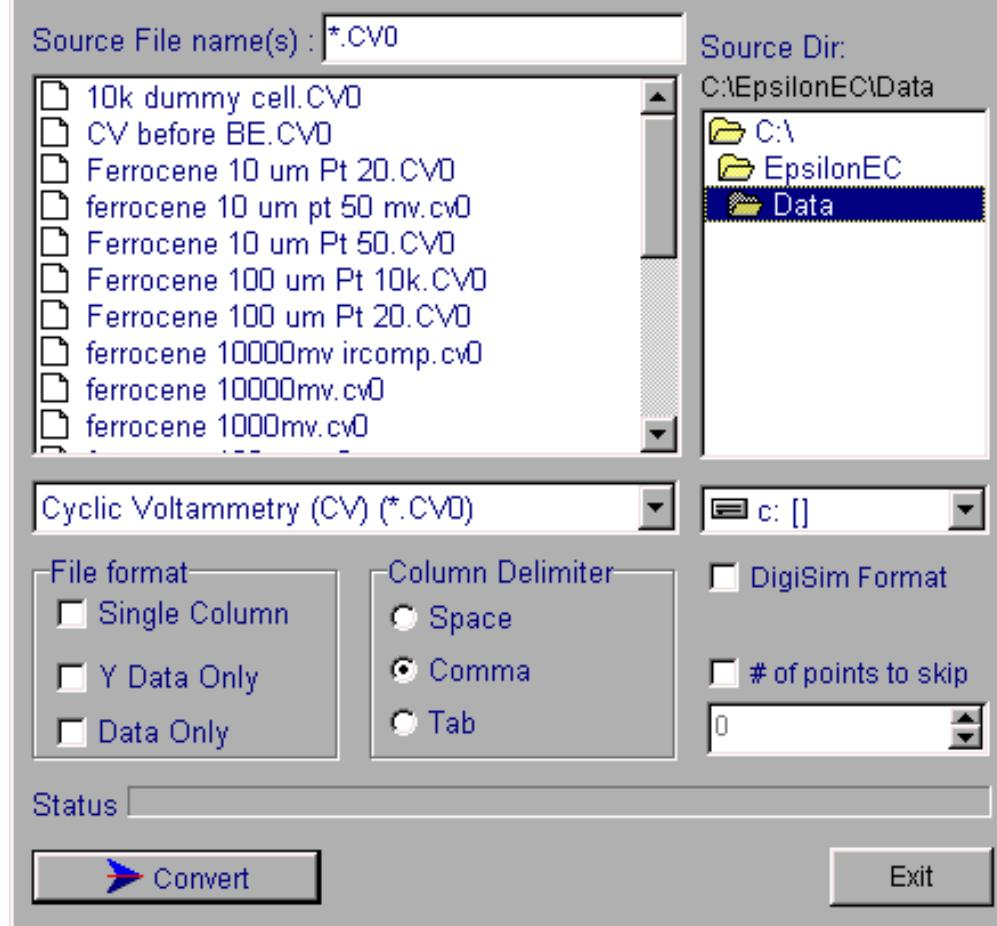

Figure 7. Convert to Text dialog box.
7. Use **Save** in the **File** menu (or the **F4** key) to save the data in the active experiment window (it should be noted that each technique has its own extension; for example, .cv0 for cyclic voltammetry). The data is saved in a binary format, but, once saved, it can be converted to a number of different text formats using **Convert to Text File** in the **File** menu (**Figure 7**). Select the file(s) to be converted, the format, and the delimiter, and then click **Convert** to start the conversion.